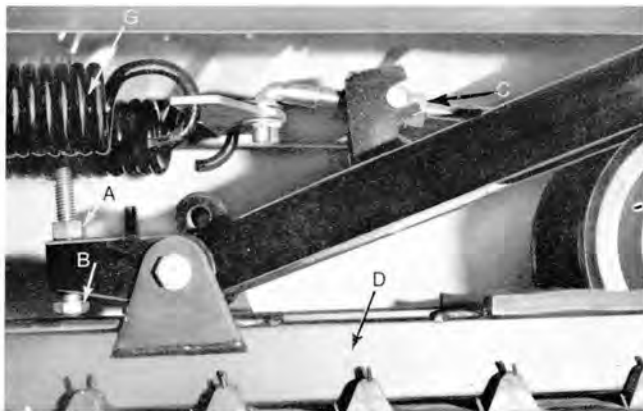

FIG. 12
skis, loosen lock nut "A" (figure 12) on both sides of the suspension.
- The nut "C" controls the tension of the spring "G" (figure 12). Tightening the nut "C" will